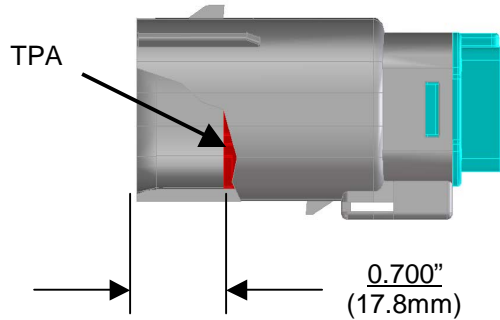

Figure 7: TPA in Locked Position
- When all terminals or circuit plugs are in their proper location, push down on TPA until it clicks into place and is now approximately 0.700”(17.8mm) from mating edge of outer housing (See figure 7).